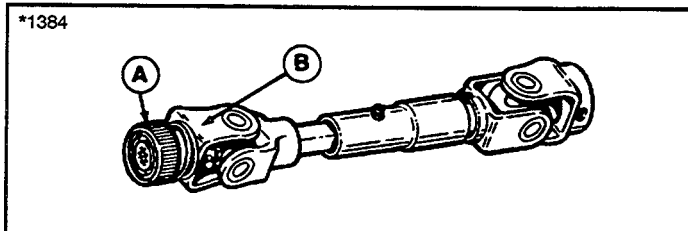

Figure 5. Mower Drive Shaft
3. The mower drive shaft connects to the tractor drive shaft by a series of retracting balls located under the locking ring (A, figure 5). When the locking ring is released, the balls lock into a groove on the tractor drive shaft. To connect the drive shaft, proceed as follows:
- A. Place the mower drive shaft barely onto the tractor drive shaft. Turn the coupler (B, figure 5) to align the splines.
- B. Pull the locking ring (A, figure 5) back, then push the mower drive shaft onto the tractor drive shaft, past the groove.
3. Remove the pins and clips from hitch (figure 5). Push back on height control lever to aid removal of pins and to maneuver mower.